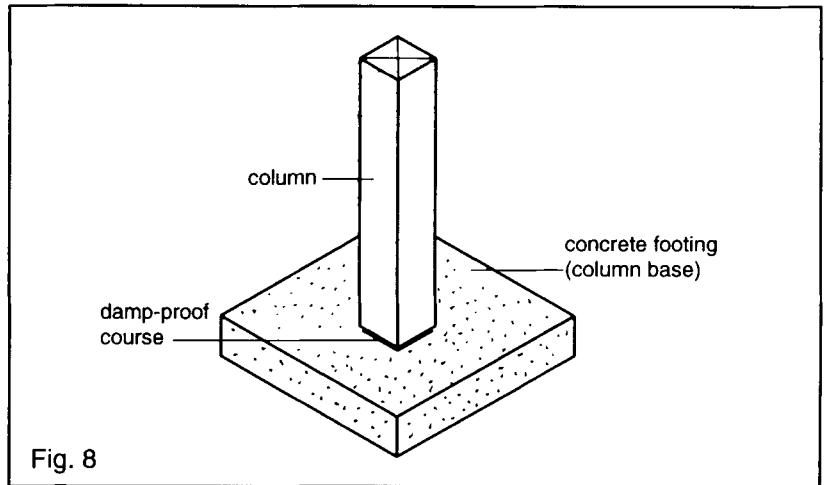

Fig. 8
**Solution:** All columns must be properly supported on column footings specifically designed to carry the imposed load. When building a new house, the column bases are poured at the same time as the footings. Then the basement floor is poured up to or over top of them. In existing buildings with a concrete basement floor, an area the size of the proposed column base must be cut out of the basement floor and any loose material removed, down to stable soil. For most residential dwellings the footing illustrated in Figure 8 will be adequate.
**Figure 8. All columns must be properly supported on footings specifically designed to carry the imposed load. On stable soil, the footing should be 2' by 2' for a single storey and 3' x 3' for a two storey house. The minimum thickness should be 6".**